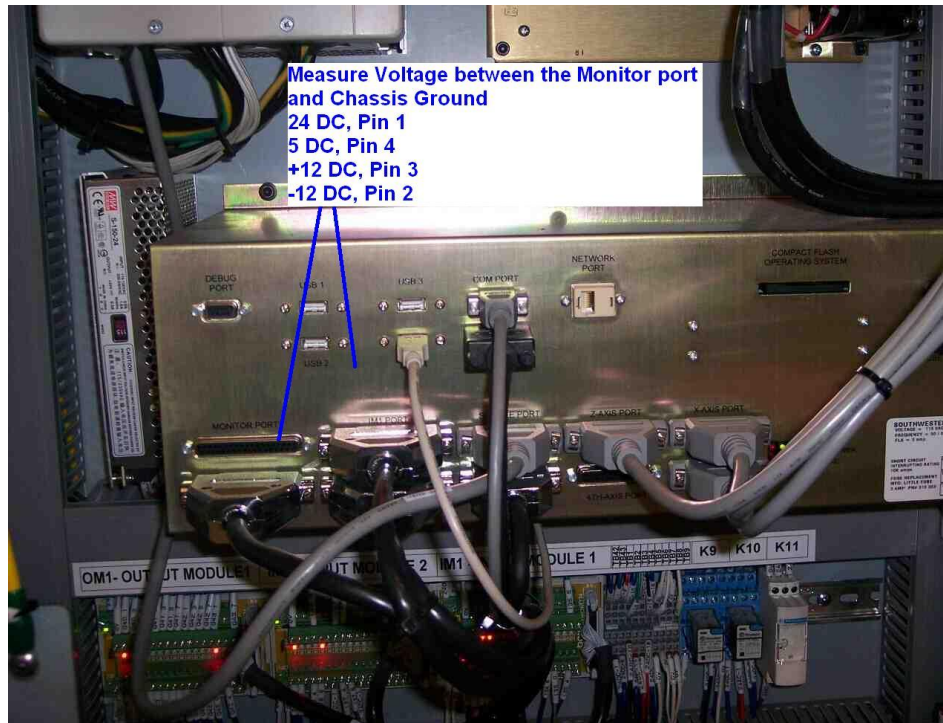

Figure 5.7.1B
4. 24VDC(21 to 27VDC) – This voltage is produced by the power supply to the left of the computer module. This voltage is used for all the relays on the relay modules and all the inputs on the OM1 and OM2 modules. The voltage can be measured between pin 1 of the "Monitor Port" on the computer module and the chassis ground on the computer module, as seen on figure 5.7.1B
5. +12VDC(11 to 13VDC) – This voltage is produced by the internal power supply of the computer module, it is used to power some internal functions of the computer module and to power the LCD controller board. The voltage can be measured between pin 3 of the "Monitor Port" on the computer module and the chassis ground on the computer module, as seen on figure 5.7.1B. If this voltage is not correct the computer module will produce a DC Power Fault, that will be identified by the red DC Power LED being turn ON, on the computer module.
6. –12VDC ( -11 to –13VDC) – This voltage is produced by the internal power supply of the computer module, it is used to power the internal circuits for the  $\pm 10$  volts used for the axis motors. The voltage can be measured between pin 2 of the "Monitor Port" on the computer module and the chassis ground on the computer module, as seen on figure 5.7.1B. If this voltage is not correct the computer module will produce a DC Power Fault, that will be identified by the red DC Power LED being turn ON, on the computer module.
8. 5VDC (4.75 to 5.25VDC) – This voltage is produced by the internal power supply of the computer module, it is used to power the internal functions of the computer module, servo drives, motor encoders, and the Overlay Interface board on the pendant. The voltage can be measured between pin 4 of the "Monitor Port" on the computer module and the chassis ground on the computer module, as seen on Figure 5.7.1B. If this voltage is not correct the computer module will produce a DC Power Fault, that will be identified by the red DC Power LED being turn ON, on the computer module.